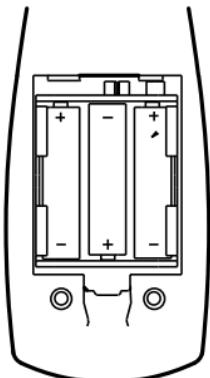

FIG. 3
- (1) Switch off the device using the main switch
- (2) Remove the battery cover
- (3) Insert the batteries as shown in the illustration(fig. 3)
- (4) Close the battery compartment lid and click it home